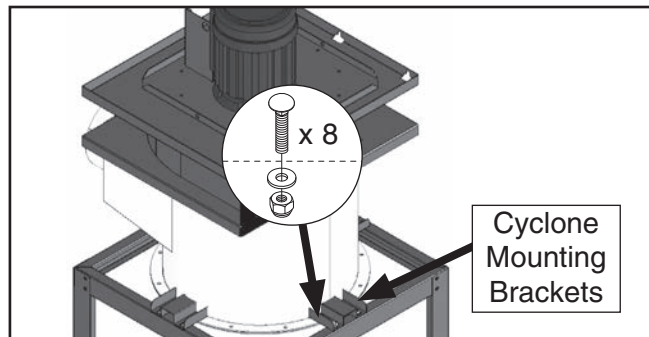

Figure 20. Blower/intake assembly attached to upper stand.
20. Lower blower/intake assembly into upper stand assembly so that cyclone mounting brackets align with mounting holes of upper stand braces (see **Figure 20**).
21. Secure mounting brackets to upper stand with (8) $\frac{5}{16}$ "-18 x $\frac{3}{4}$ " carriage bolts, $\frac{5}{16}$ " flat washers, and $\frac{5}{16}$ "-18 hex nuts (see **Figure 20**).